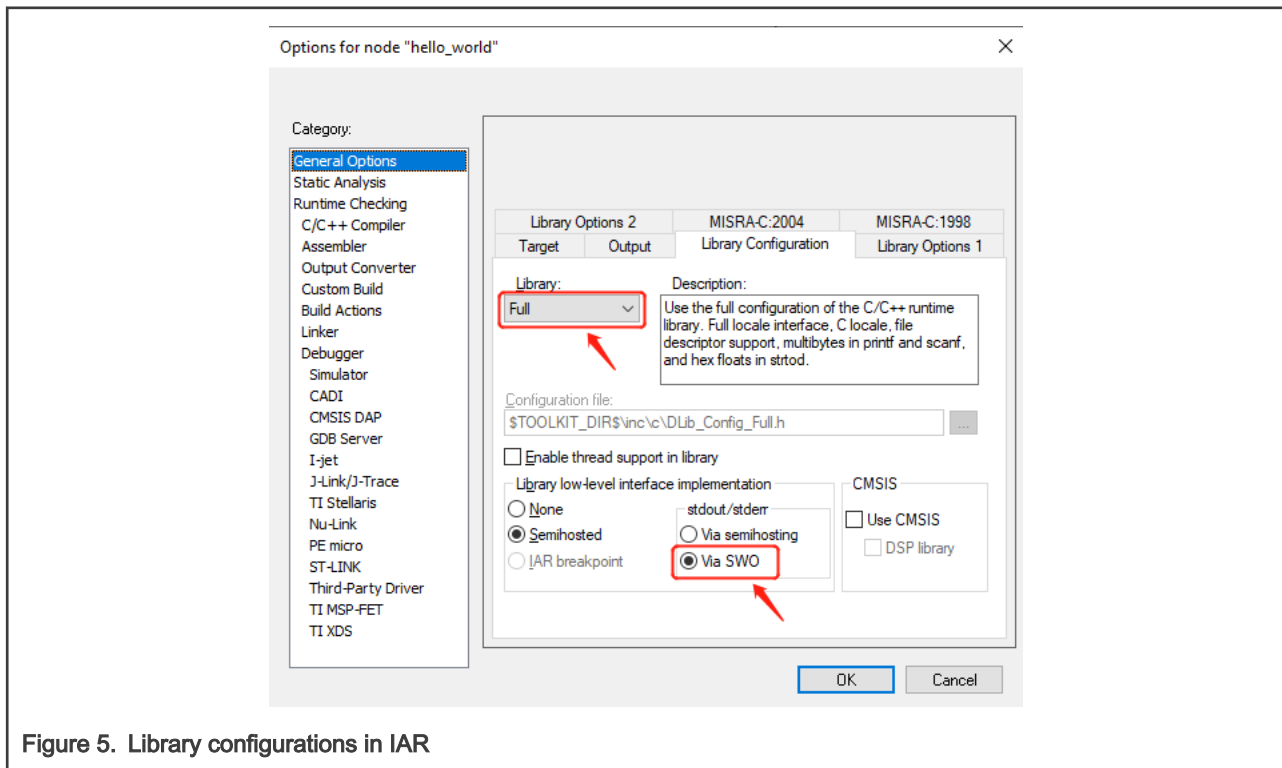

Figure 5. Library configurations in IAR
2. Click **Project -> Options -> General Options -> Library Configuration**. Set the library to **Full** and in **stdout/stderr**, choose **Via SWO**, as shown in Figure 5.